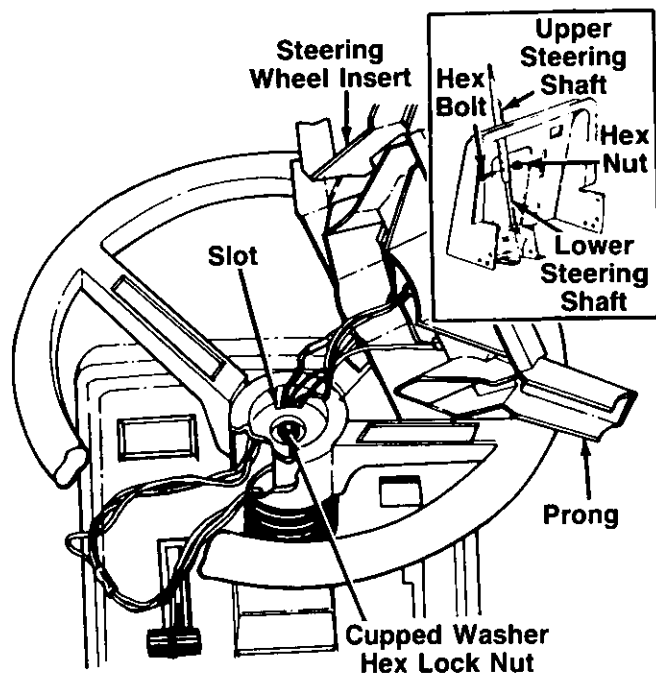

FIGURE 4.
7. Slide the steering bellow over the steering column. Hold the wires out of the way as shown. See figure 4.
12. The holes in the upper steering column provide height positions for the steering wheel. **Use one of the bottom two holes only.** See figure 4, inset. Select desired position, and secure with hex bolt and hex lock nut. Tighten securely.